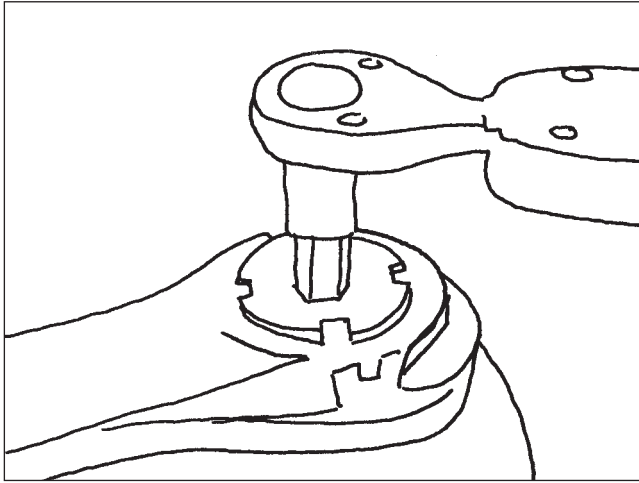

Figure 58
9. Using the 5/8" or 3/4" allen head socket and torque wrench, install the retainer in the output shaft by torquing the retainer to the torque value stamped on the face of your retainer. Either 225 ft./lbs., 350 ft./lbs. or 450 ft./lbs. (Figure 58).